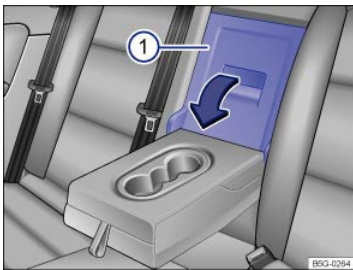

Fig. 153 In the rear seat backrest: Opening the luggage compartment pass-through.
- Pull the release lever in the direction of the arrow ⇒ Fig. 153 ① and fold the pass-through cover all the way forward.